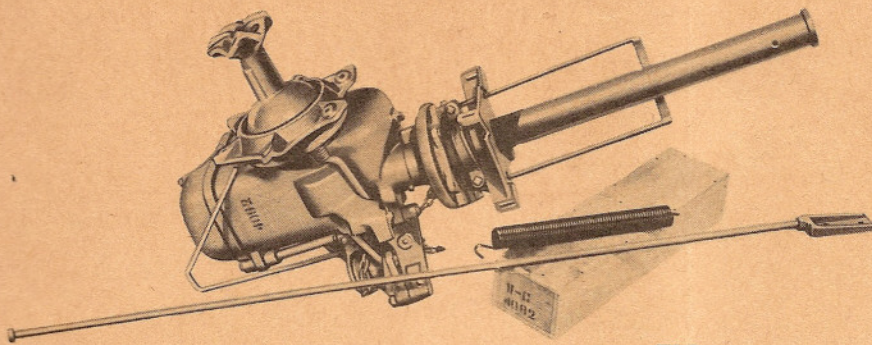
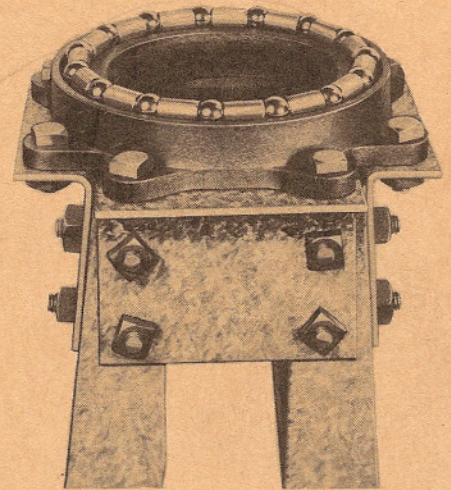

FIG. 1
FIG. 2
2. Remove all castings from the pipe, (Fig. 1), and proceed to attach the tower plates to the top of the tower with  $\frac{3}{8}$  inch x  $\frac{3}{4}$  inch carriage bolts. Before tightening, attach the lower ball race to the top of the plates with  $\frac{3}{8}$  inch x 1 inch machine bolts and tighten all nuts. (Fig. 2.) Next, attach lower tower casting to tower using  $\frac{3}{8}$  inch x  $1\frac{1}{4}$  inch bolts for  $6\frac{1}{2}$  foot and 8 foot mills and  $\frac{1}{2}$  inch x  $1\frac{1}{2}$  inch bolts for 10 foot mill.